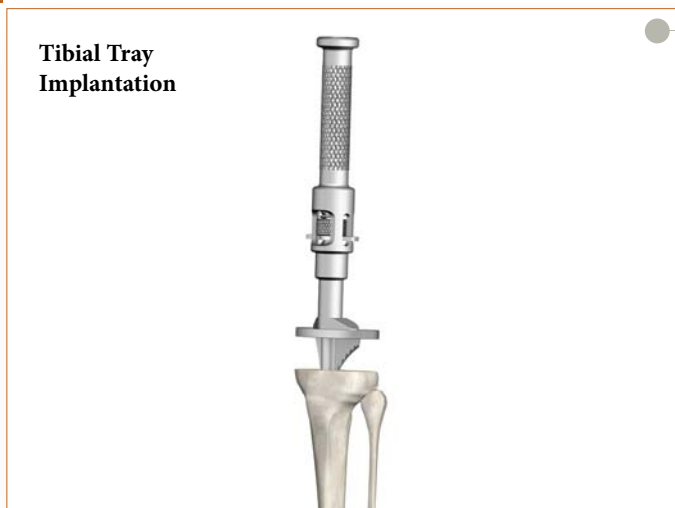

Figure 74
- ▶ Introduce the tibial tray into the prepared tibia and impact it until the tray is fully seated (Figure 74). Remove the instrument from the tray before polymerization. Clear all excess bone cement without disturbing the position of the implant.